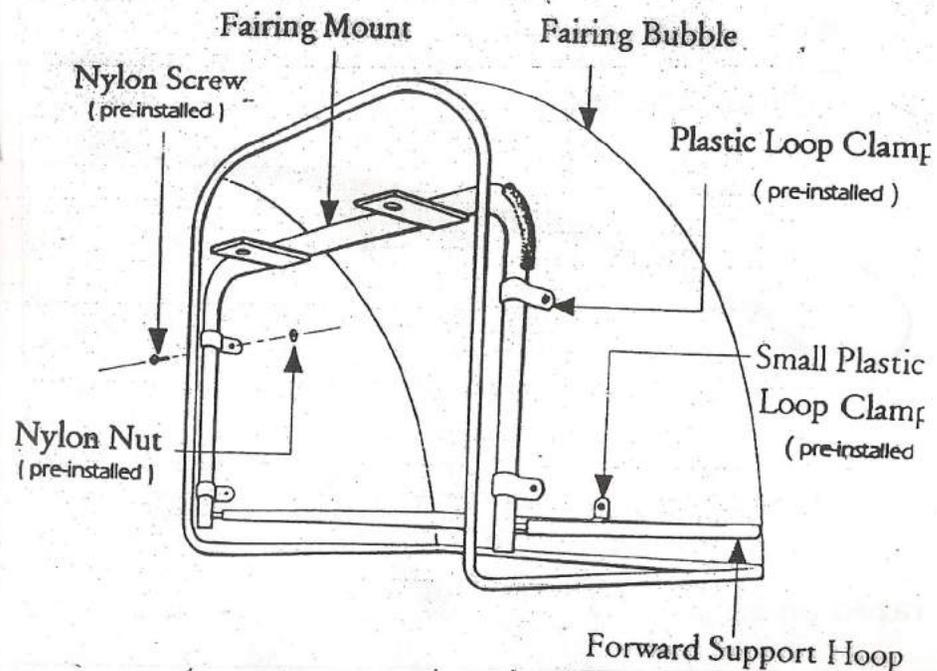

Fig. 4-1
- A) Slide the Fairing Mount through the large black plastic Loop Clamps. (See Fig. 4-1).